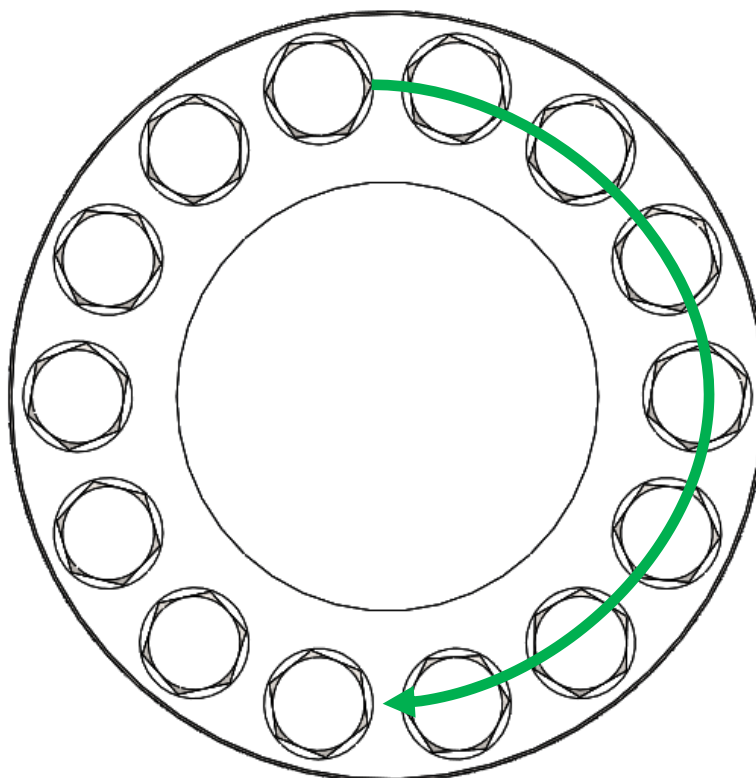

Figure 4 – Loosening pattern
1. Loosen the jackbolts one at a time by $\frac{1}{4}$ of a turn, beginning with No. 1 (arbitrary) and proceeding in a circular pattern, as shown in **Figure 4 – Loosening pattern** (releasing the locking force is all that is required). After loosening all the jackbolts in the first round, No. 1 will be locked in place once more, but with a reduced load.